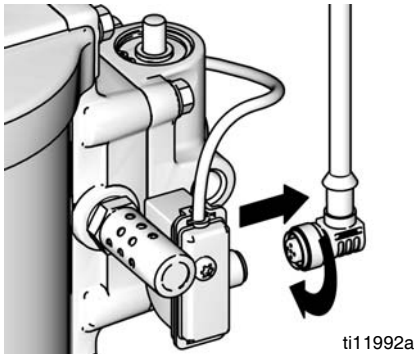

FIG. 11. Disconnect DataTrak
1. Unscrew cable from the back of the reed switch assembly. See FIG. 11.